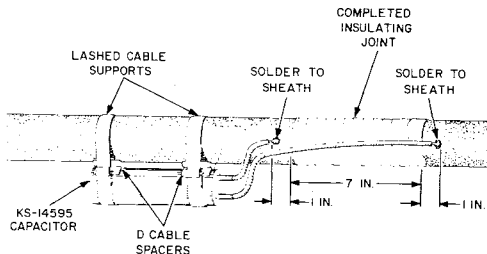

Fig. 4—Securing Capacitor
(b) Fasten the capacitor in place with lashed cable supports and D cable spacers as shown in Fig. 4. The capacitor should be positioned close to the joint so the shorter lead does not exceed 6 inches in length.
- (d) Solder the leads to the sheath, one on each side of the insulating joint. Dress the leads as close to the cable as possible (Fig. 4).
Note: In order for the capacitor to be effective at carrier frequencies, the capacitor leads should be kept as short as possible. (Fig. 4 is a good example.) Every possible effort should be made to conform to this type of construction.